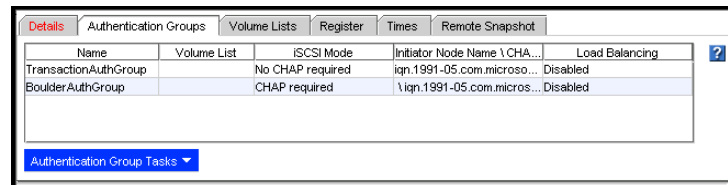

Figure 179. Viewing the Authentication Groups
- In the management group's tab window, go to the Authentication Groups tab to see the new group displayed in the list, shown in Figure 179.